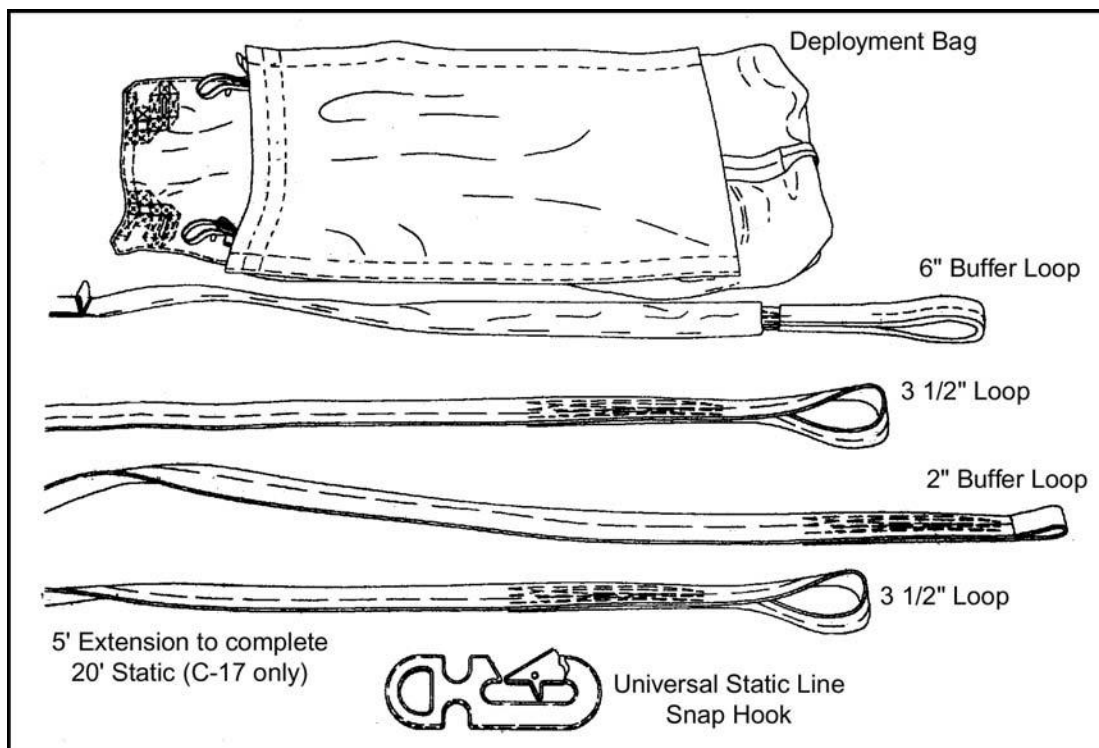
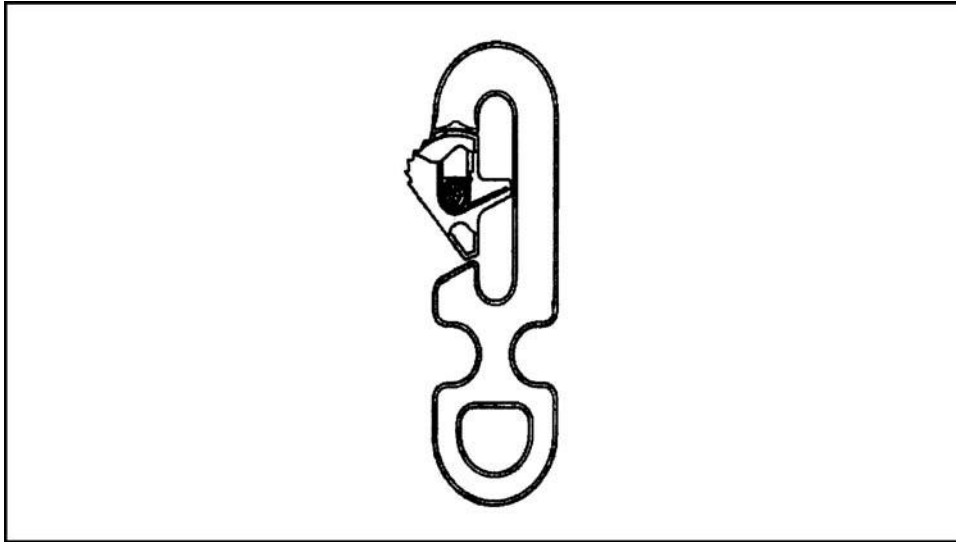

Figure 2-4. Static line extension.
Figure 2-5. Static line snap hook.
a. **Universal Static Line.** A 15-foot universal static line (USL) is secured to the D-bag by a girth hitch. The opposite end of the USL has a snap hook, which is also secured by a girth hitch. To configure the USL to the 20-foot length, the snap hook is removed and the extension is secured to the USL by a girth hitch. The snap hook is then secured to the opposite end of the extension. The length of the 15-foot static line after being secured to the deployment bag and snap hook is 14 feet 7 inches. The 20-foot configuration is 20 feet 1 inch long. There are four separate components to the USL, which must be purchased separately: deployment bag, static line, static line extension (Figure 2-4), and static line snap hook (Figure 2-5, page 2-6).
d. **Static Line Extension.** The static line extension is 70 1/2 inches long (+ - 1/2 inch) (Figure 2-4). It is made from the same webbing as the static line.
e. **Snap Hook.** The snap hook is 5 1/2 inches long, approximately 1/4-inch thick, and weights 0.67 pounds (Figure 2-5, page 2-6). It is made from alloy steel with Dacroment 320, grade A plus L finish for abrasion/humidity/salt/fog protection. The finish is environmentally compliant and a standard in the automotive industry. The snap hook gate and rivet pin are made from the same alloy steel, whereas the pullback spring is made from steel spring wire. The snap hook is rated to withstand a 1,750-pound load and has an ultimate failure rate of no less than 8,000 pounds.